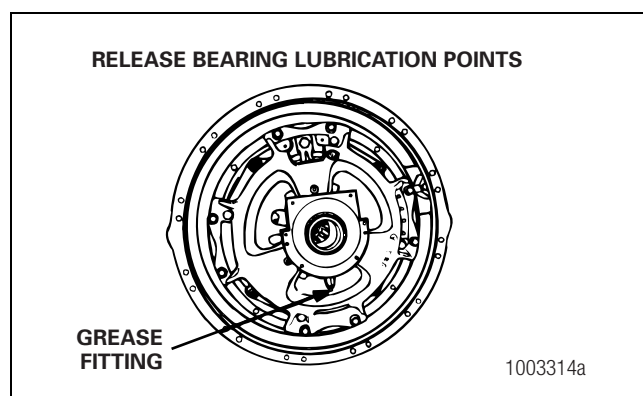

Figure 3.12
7. Install the inspection cover. Figure 3.12.